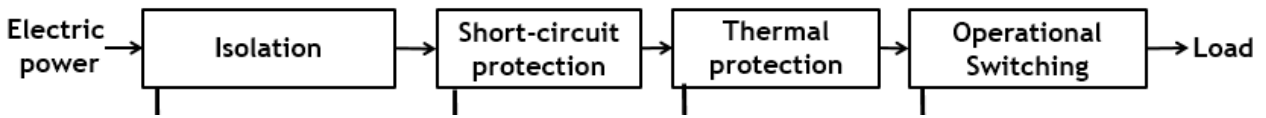

Figure 3
6. [1] Consider the block diagram of figure 3. For each block, list two examples of switchgear components that can be used.